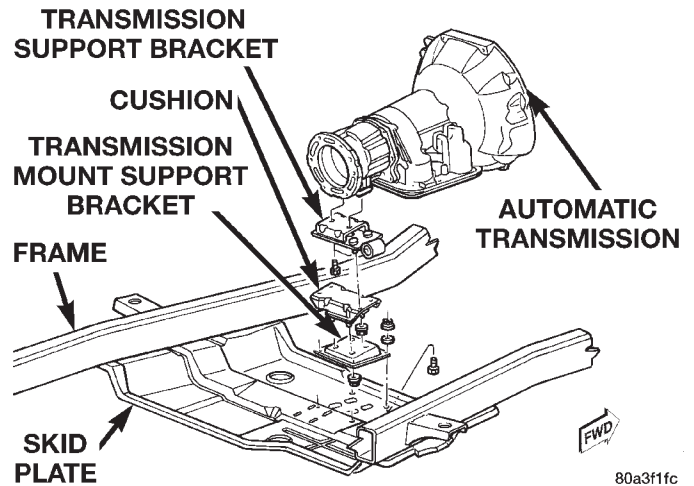
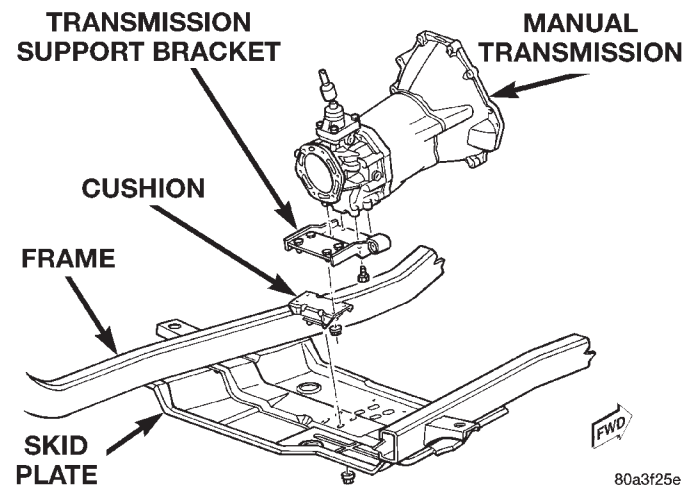

Fig. 4 Transmission Mount—Automatic Transmission
Fig. 5 Transmission Mount—Manual Transmission
- (1) Raise and support the vehicle.
- (2) Place a support under the transmission.
- (3) Remove the nuts attaching the transmission mount to the skid plate (Fig. 4) and (Fig. 5).